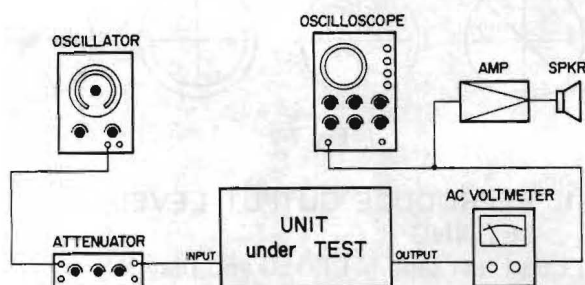

Fig. 7-3
- Connect the measuring instruments as shown in Fig. 7-3.
- 1) Connect the measuring instruments as shown in Fig. 7-3.